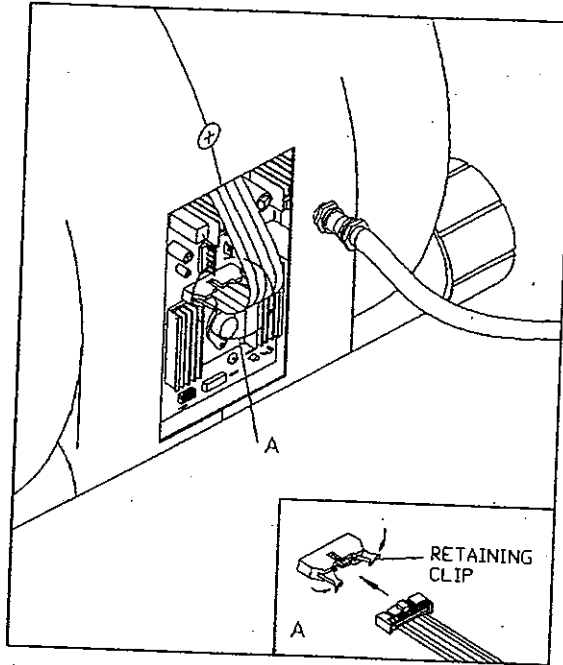

Fig. 10
4. Plug the 16 cable connector into its socket on drive board, snap the retaining clips to secure the cable (see Fig. 10).